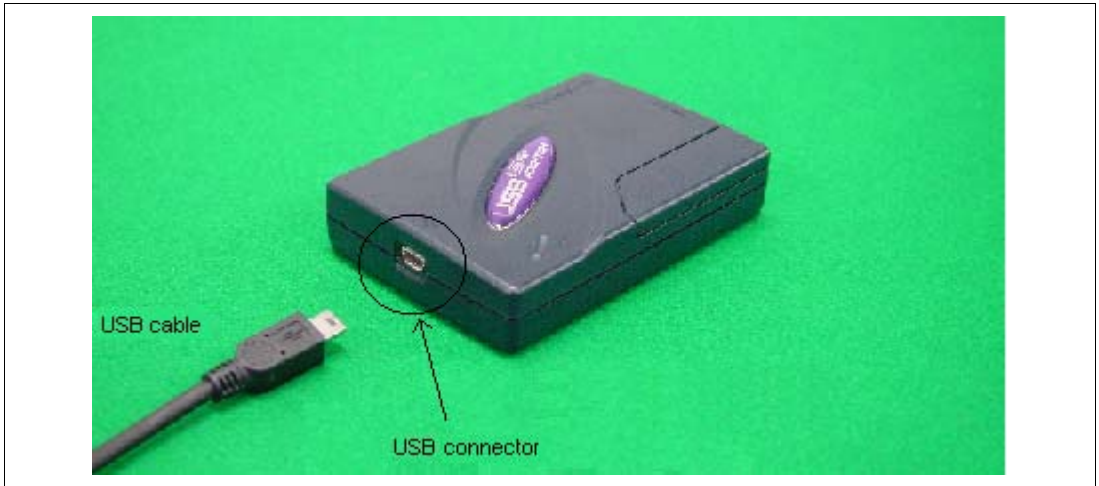

Figure 3.1 Connecting USB Cable to USB Adapter
(1) Connect the USB cable to the connector marked “” as shown in figure 3.1.